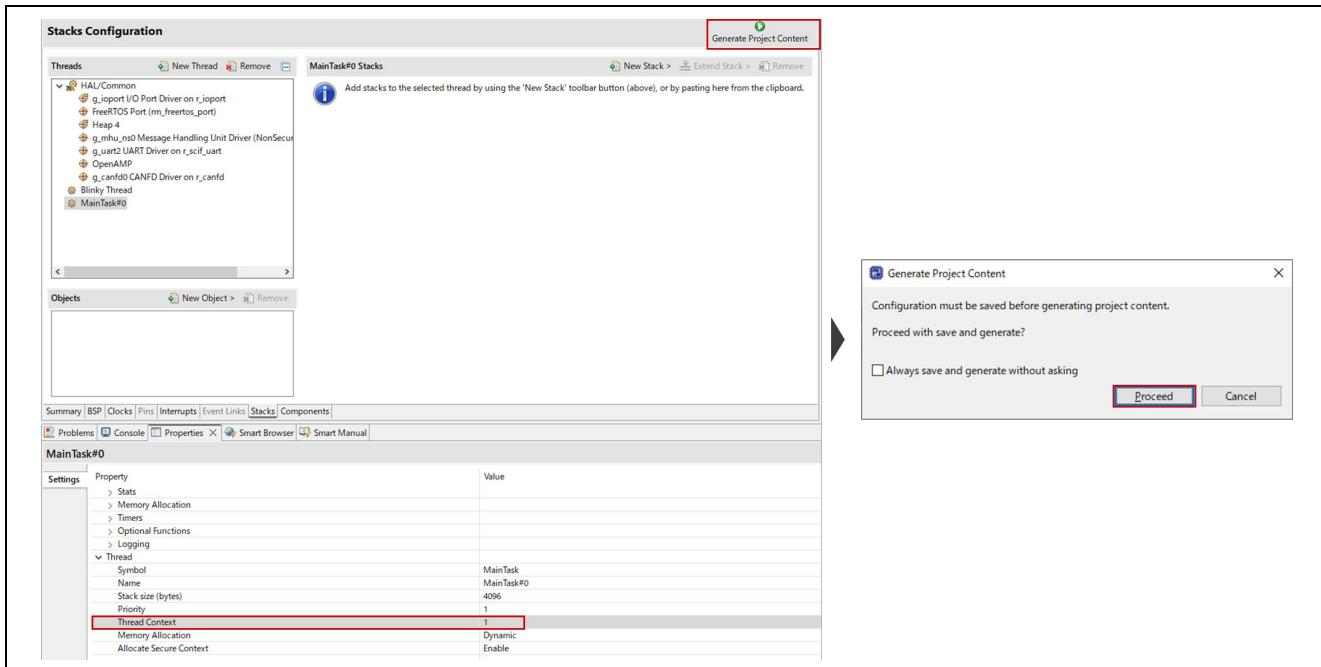

Figure 4-4. RPMsg Channel Setting
1. Choose `rzg2l_cm33_rpmsg_linux-rtos_demo Debug_Flat` or `rzg2l_cm33_rpmsg_linux-rtos_demo Release_Flat` from the drop-down list indicated by a red arrow in Figure 4-4.